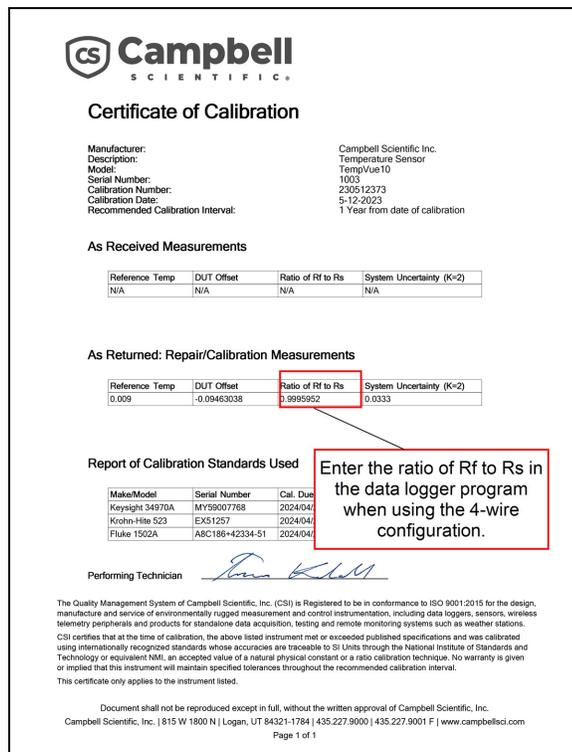

Figure 3-1. Example calibration certificate
- The calibration certificate shipped with each TempVue 10 includes the Ratio of Rf to Rs (see Figure 3-1 [p. 2]). This value is unique for each sensor. Cross check this serial number on the certificate against the serial number on your sensor to ensure the given Ratio of Rf to Rs corresponds to your sensor. The ratio of Rf to Rs is used as the calibration factor as PRTs vary in their resistance at 0 degrees C, and this is the ratio (a multiplier) of the unit under test to its resistance at 0 C. This provides a more accurate calibration adjustment over a wider range of temperatures.